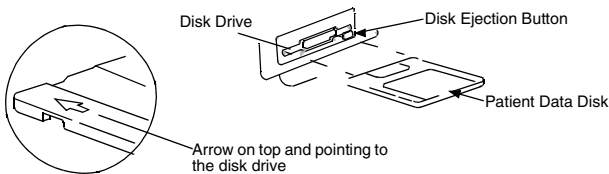

Figure 9. Disk drive on the right side of the PRM.
The Model 6627 Patient Data Disk must be inserted with the arrow on the top left side and pointing into the disk drive (Figure 9).
1. If using a patient data disk, remove disk from the disk drive by pressing the disk ejection button (Figure 9), and store the disk in a safe place.